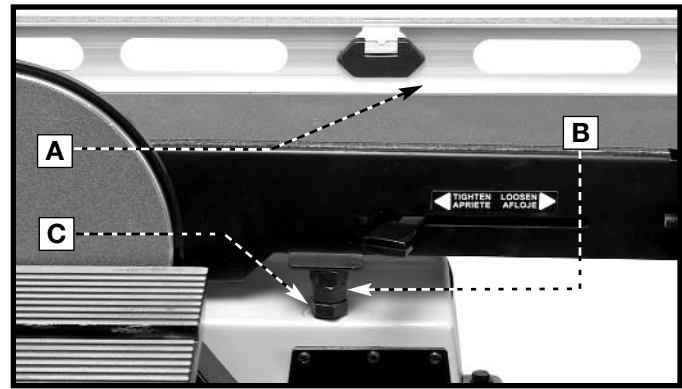

Fig. 21
- Place a level (A) on the sanding belt.
- To adjust, loosen the lock nut (B) Fig. 21, and turn the sanding arm stop (C) in or out until the sanding arm is level. After adjustment, tighten the lock nut (B).